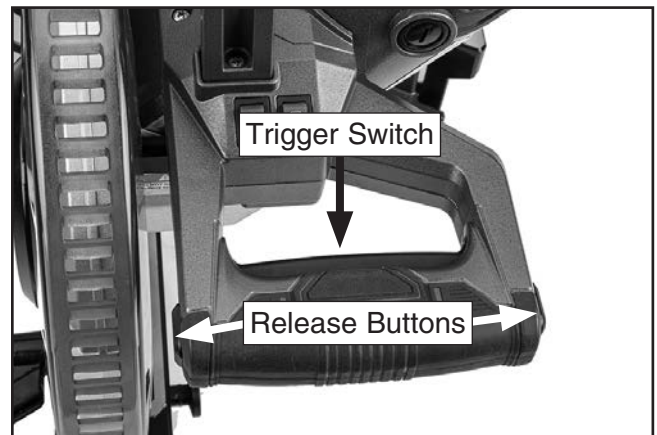

Figure 23. Trigger switch and release buttons.
3. To turn machine **ON**, press one of the release buttons on either side of operating handle (see **Figure 23**). While keeping this pressed, squeeze trigger switch. Verify motor starts up and runs smoothly without any unusual problems or noises, and then turn machine **OFF**.